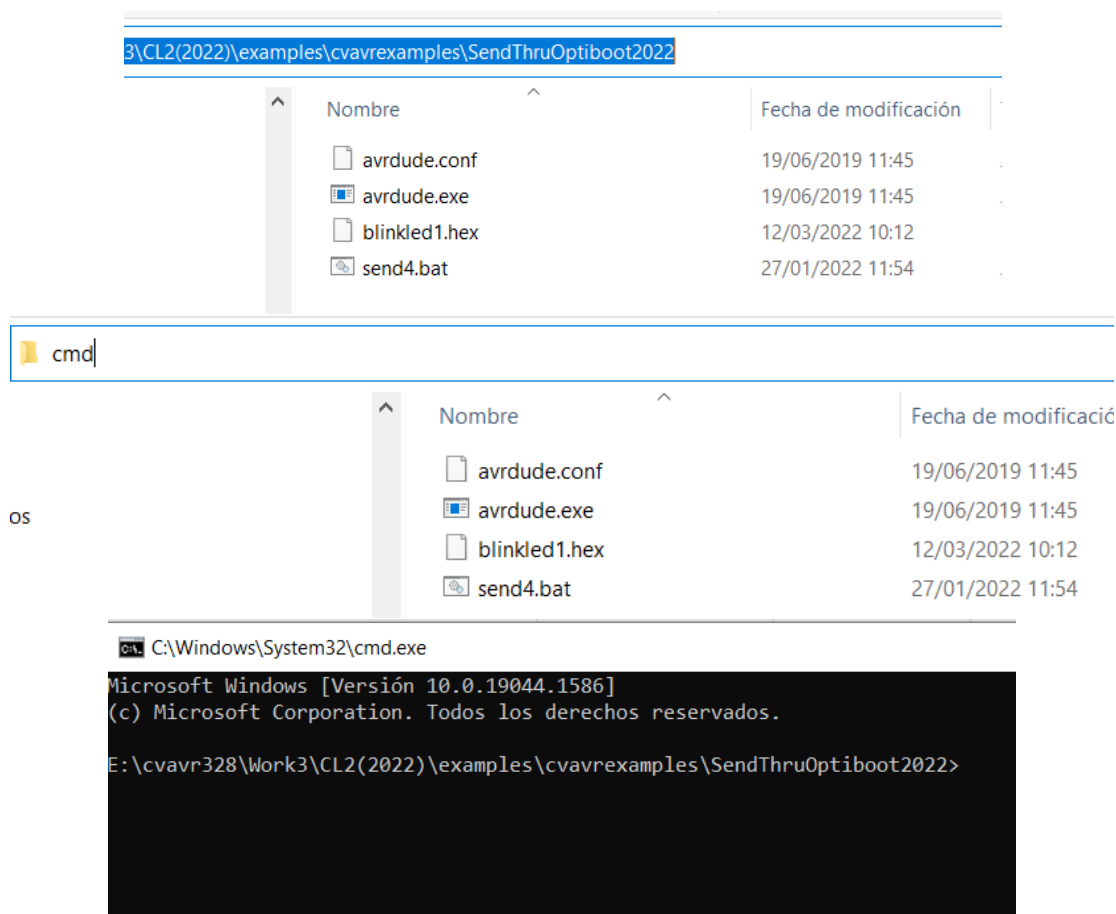

Figure 13a,b,c – Opening command prompt in Testing directory
3.a.4.2 Program CPU on CL2bm1 board: In Windows Explorer, on this directory, click on the directory window and type "cmd". This should open a terminal in this directory (Figure 13a,b,c):